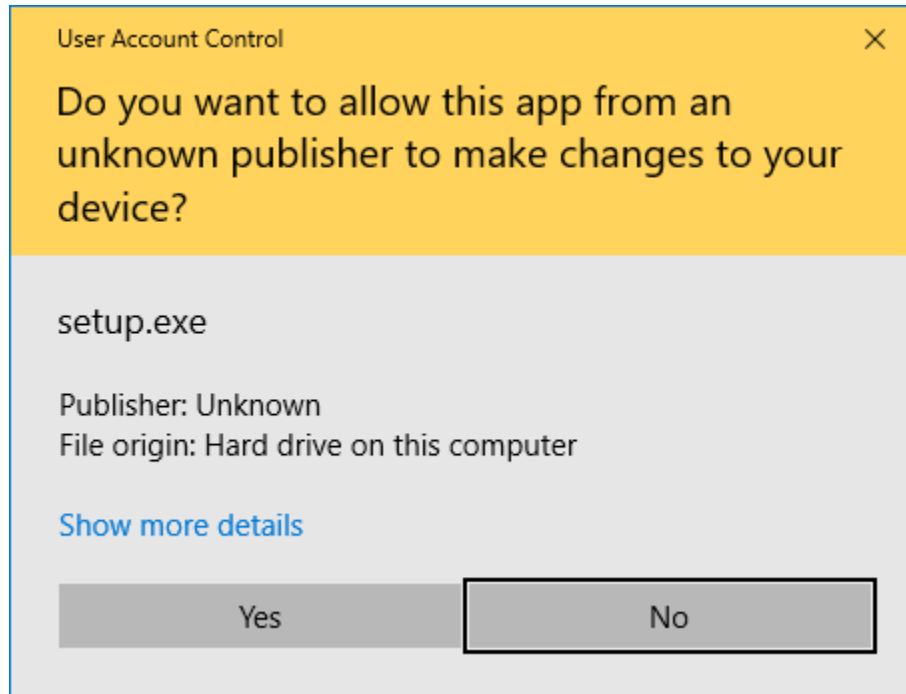

Figure 3 User Account Control window
1.1.6 Press Next in Destination Directory window (Figure3).